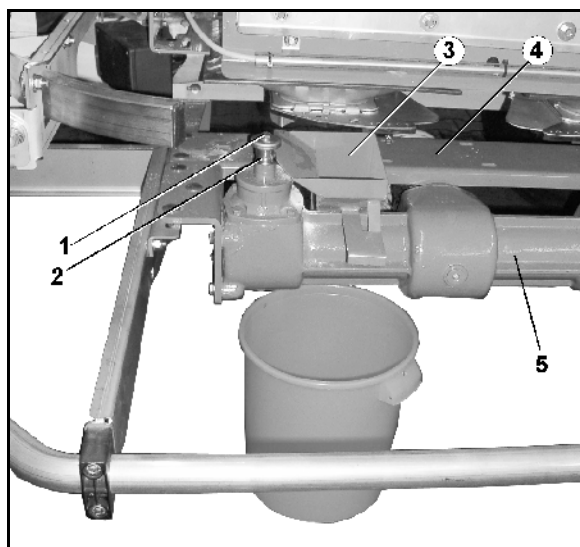

Fig. 54
4. Install calibration hopper (Fig. 54/3) between the bridge (Fig. 54/4) and distributor gearbox (Fig. 54/5) and push in up to the left gearbox shaft.